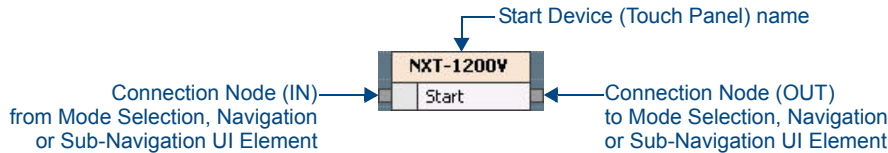

FIG. 147 UI Element Type - Start Device
Start Device UI elements have one Input (IN) Connection Node on the left side, and one Output (OUT) Connection Node on the right side (FIG. 147):